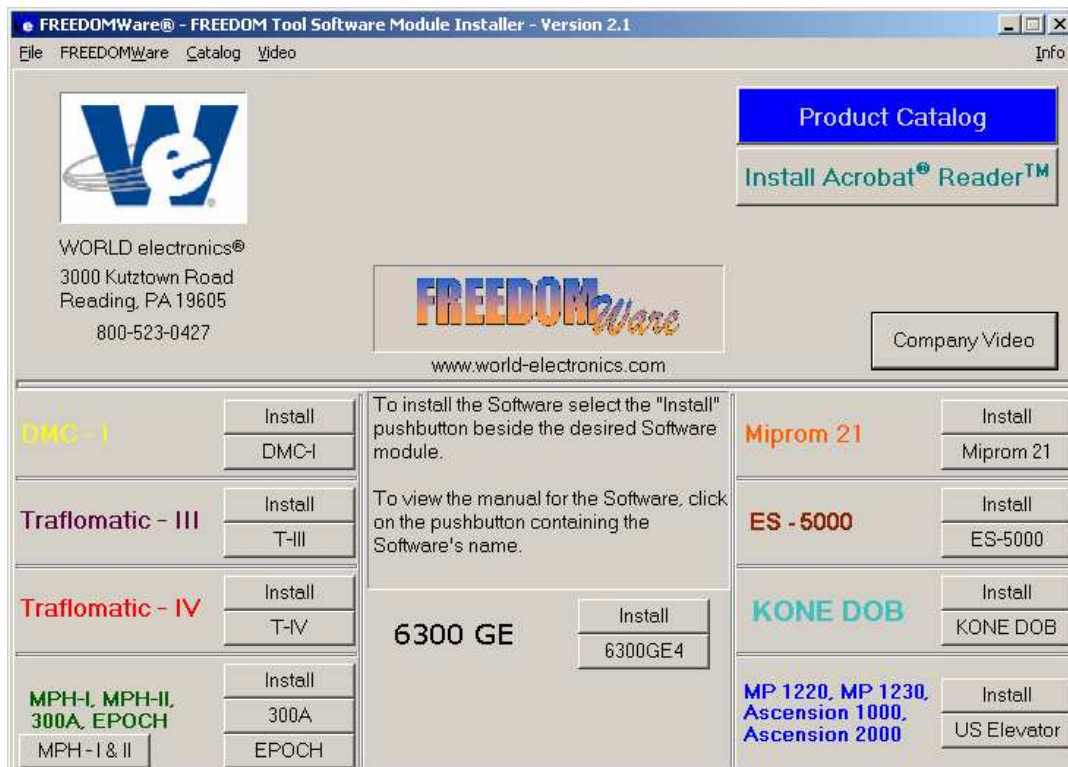

Figure 4
1. Insert the FREEDOMWare Installation CD into the Notebook PC's CD-ROM Drive. After approximately 10 seconds, a window will appear titled **FREEDOMWare – FREEDOM Tool Software Module Installer**. Please refer to Figure 4.